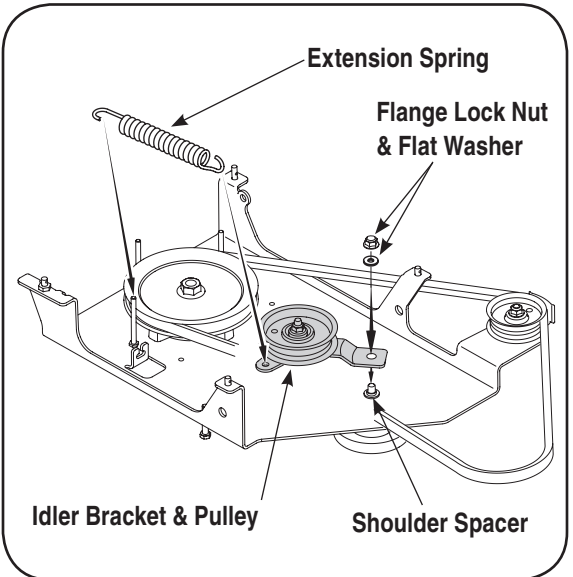

Figure 8
1. Remove the flange nut and washer noted in Figure 8, which secures the double-idler bracket to the undercarriage. Leave the Shoulder Spacer in place.
2. Attach the idler assembly (packaged separately) over the hex screw and shoulder spacer on the surface of the undercarriage. See Figure 8.
3. Fasten the idler bracket to the undercarriage with the hardware just removed. See Figure 8.
4. Attach one end of the extension spring (732-0594A) to the hole in the idler assembly just mounted and the opposite end of the extension spring to the keeper pin as illustrated in Figure 8.